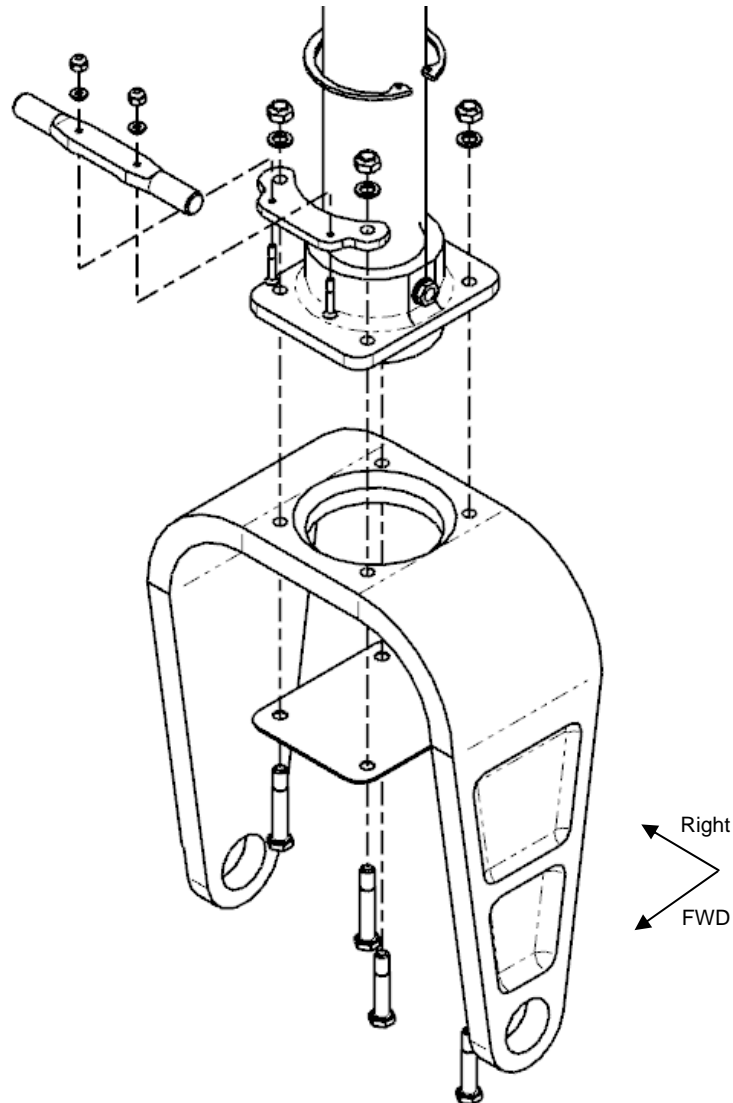

Figure 6-2: Nose Landing Gear Fork Assembly
5. Install two (2) bolts (P/N NAS6606-23) up through the stone guard, fork, nose landing gear attachment collar and tow peg mounting base. Place one (1) washer on each bolt and torque nut (P/N MS21045-6) to 160-190 in-lb. Refer to **Figure 6-2**.
6. Install two (2) bolts (P/N NAS6606-19) up through the stone guard, fork, and nose landing gear attachment collar. Place one (1) washer on each bolt and torque nut (P/N MS21045-6) to 160-190 in-lb. Refer to **Figure 6-2**.